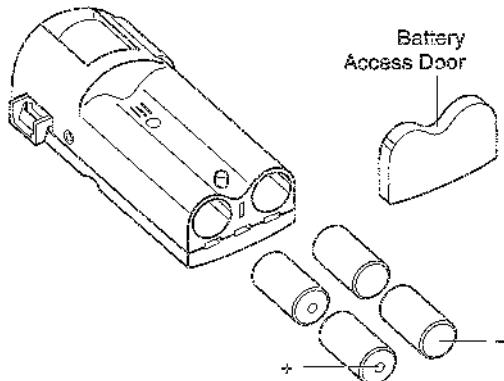

Figure 3: Installing Batteries
2. Install four alkaline "C" size batteries, oriented as in Figure 3. Replace the battery access door.